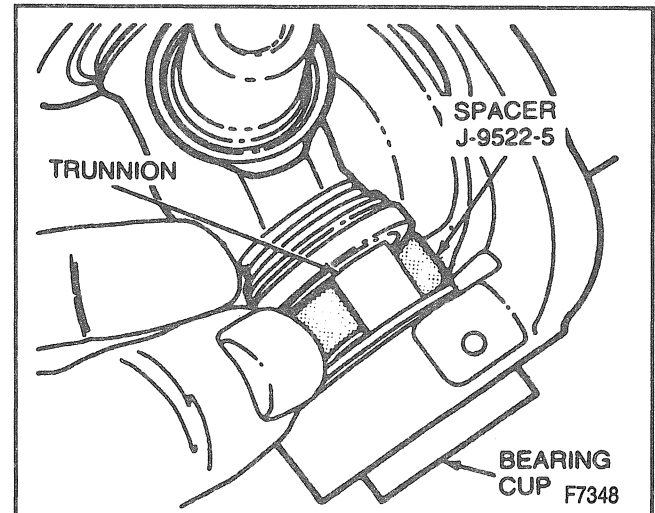

Figure 15—Using Available Spacer
- In order to shear the plastic retaining ring on the bearing cup, place J 9522-3 on the open horizontal bearing cups and press the lower bearing cup out of the yoke ear. If the bearing cup is not completely removed, lift the cross and insert tool J 9522-5 between the seal and bearing cup being removed and continue to press it out of the yoke (Figure 15).
- Place J 9522-3 on the open horizontal bearing cups and press the lower bearing cup out of the yoke ear. If the bearing cup is not completely removed, lift the cross and insert tool J 9522-5 between the seal and bearing cup being removed and continue to press it out of the yoke (Figure 15).